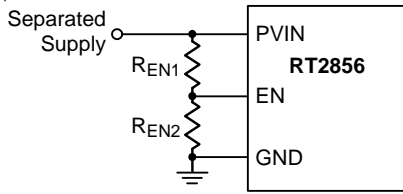
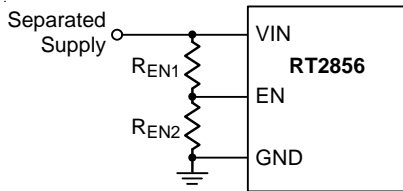
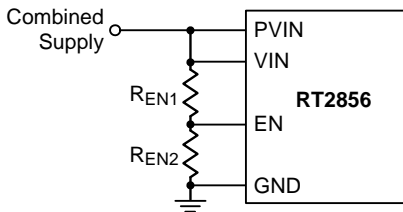

Figure 4. Resistor Divider for PVIN UVLO Setting
Figure 5. Resistor Divider for VIN UVLO Setting,
Figure 6. Resistor Divider for PVIN and VIN UVLO
The EN pin can also be applied to adjust its under-voltage lockout (UVLO) threshold with two external resistors divider from the both input VIN and PVIN pins used together or separately, and the application structures are shown in Figure 4, Figure 5, and Figure 6.
Under above application structures, the adjustable UVLO function of EN pin allows to achieve a secondary UVLO on PVIN pin, a higher UVLO on VIN pin or even a common UVLO on both VIN and PVIN pins. For example, if the EN pin is configured as Figure 5 and the output voltage is set to a higher value 10V, the device may shut down after soft-start sequence is over, and the reason is that the V_{OUT} is still lower than its set target during the V_{IN} rising period even though V_{IN} has already risen to its internal UVLO threshold 4V. To prevent this situation, an adjustable UVLO threshold from EN pin is useful to avoid such high output transfer condition. The exact UVLO thresholds can be calculated by Equation (3). The setting V_{OUT} is 10V and V_{IN} is from 0V to 18V. When V_{IN} is higher than 12V, the device is triggered to enable the converter. Assume $R_{EN1} = 56k\Omega$. Then,